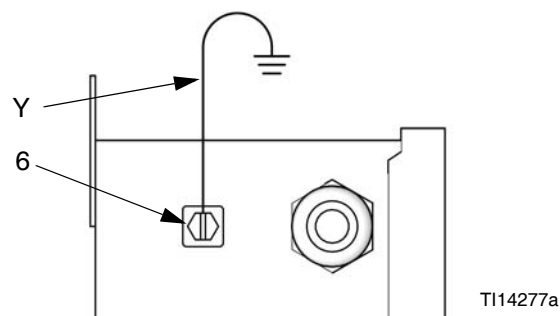

FIG. 6. Ground the Enclosure
Connect a ground wire (Y) from the enclosure's ground screw (6) to a true earth ground. See FIG. 6.